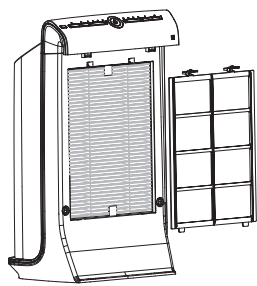

Fig 2
2. Take away the pre filter by putting your fingers at the two locks which are on top side of the filters. Press down the locks and pull it out slightly. (Fig 2)